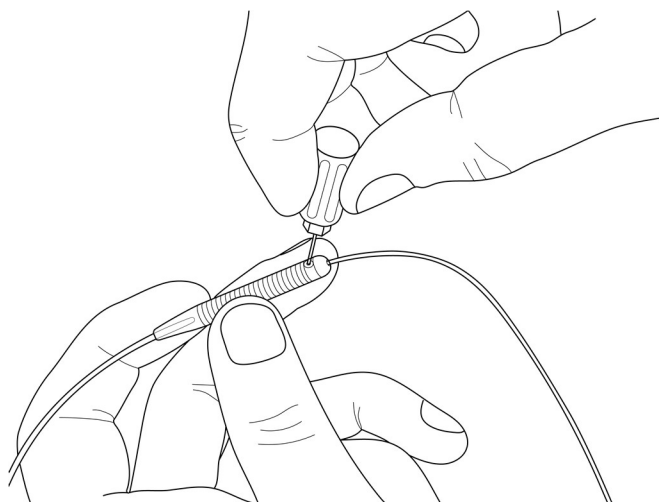

Figure 6.2: Tightening the set screw in the lead extension header block.
5. Fit the head of the torque wrench (supplied in the kit) into the setscrew in the lead extension connector block (refer to Figure 6.2).